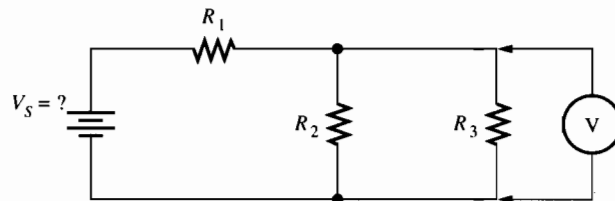

Figure 10–4
5. The circuit in Figure 10–4 has three equal resistors. If the voltmeter reads +8.0 V, find V_S .